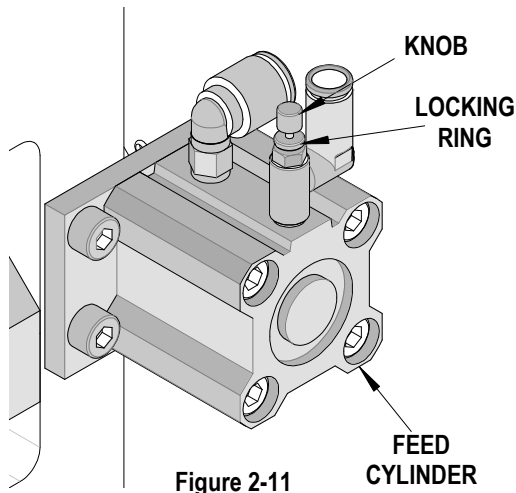

Figure 2-11
Terminal feed speed is controlled by the flow control valve on the feed cylinder. Loosen the locking ring, then turn the adjustment knob clockwise (CW) to reduce the feed speed or counterclockwise (CCW) to increase the feed speed. See Figure 2-11.
4. To adjust the stripper up and down, use a 4mm hex wrench to loosen the M5 SHCS on the front of the stripper. Move the stripper down until it is just above the taped terminal on the anvils. See Figure 2-11. Tighten the M5 SHCS when adjustment is complete.